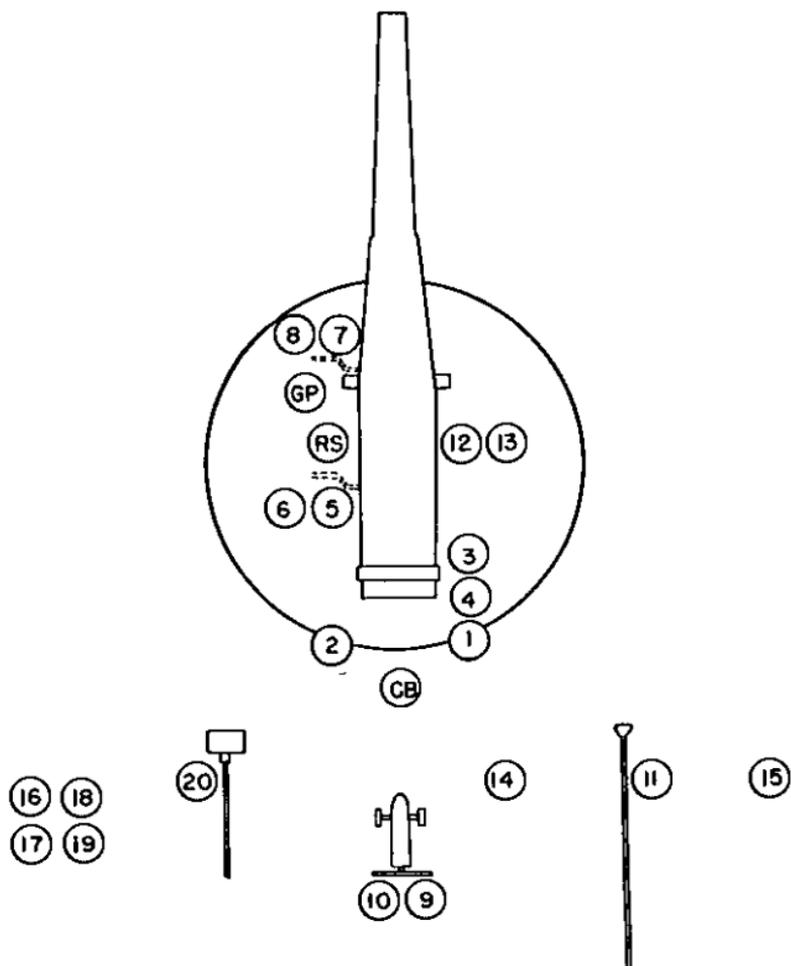

FIGURE 2.—Positions at DETAILS, POSTS.
- (1) Training and efficiency of the personnel of his section.
- (2) Condition of the matériel under his charge.
- (3) Camouflage discipline and gas discipline at the emplacement and magazines.
- (4) Observance of all safety precautions pertaining to the service of the piece at his emplacement and magazines under his charge.
- (5) Police of the emplacement and magazines under his charge.
c. When his section arrives at the emplacement he commands: 1. **DETAILS**, 2. **POSTS**, and supervises the procuring of equipment. After all details have reached their posts (fig. 2) he commands: **EXAMINE GUN**. He then personally makes an inspection of the gun, carriage, and other matériel, including that pertaining to the service of ammunition.